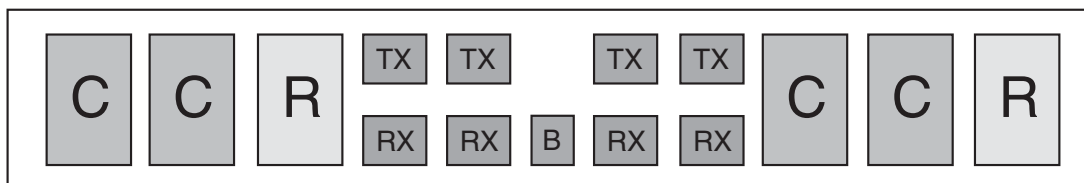

Figure 1-4 • RTAX-S/SL SuperCluster
Two C-cells, a single R-cell, and two Transmit (TX) and two Receive (RX) routing buffers form a Cluster, while two Clusters comprise a SuperCluster (Figure 1-4 on page 1-3). Each SuperCluster also contains an independent Buffer (B) module, which supports buffer insertion on high-fanout nets by the place-and-route tool, minimizing system delays while improving logic utilization.